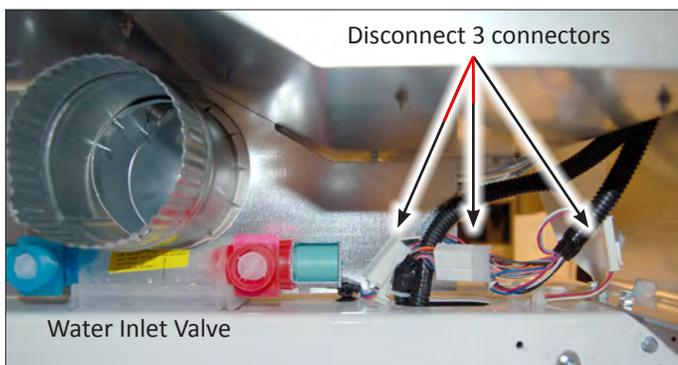

Figure 4
8. Disconnect the three harness connectors to the right of the water inlet valve assembly (Water Valve/Lid Switch/Motor & Shifter Harnesses). See Figure 4.
4. Reconnect the three harness connectors to the right of the water inlet valve assembly (Water Valve/Lid Switch/Motor & Shifter Harnesses). See Figure 4, page 5-15.